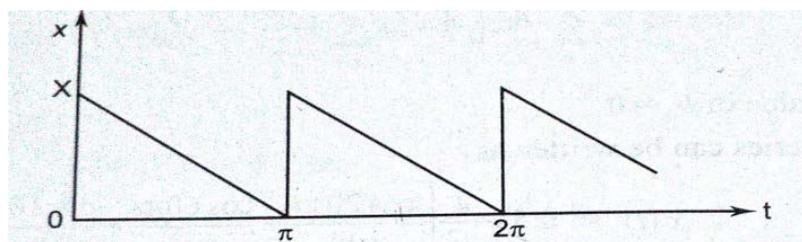

Figure 2
- Represent the motion by harmonic series shown in figure 2.